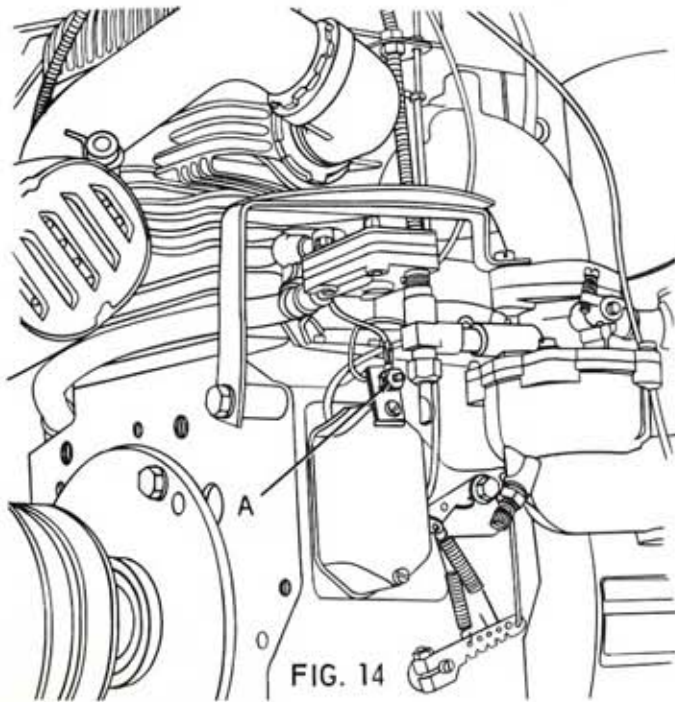

FIG. 14
7. Attach eyelet of shorting wire from shredder Attachment to terminal (A) on Briggs engine, to breaker box as shown above. See (Fig. 14).